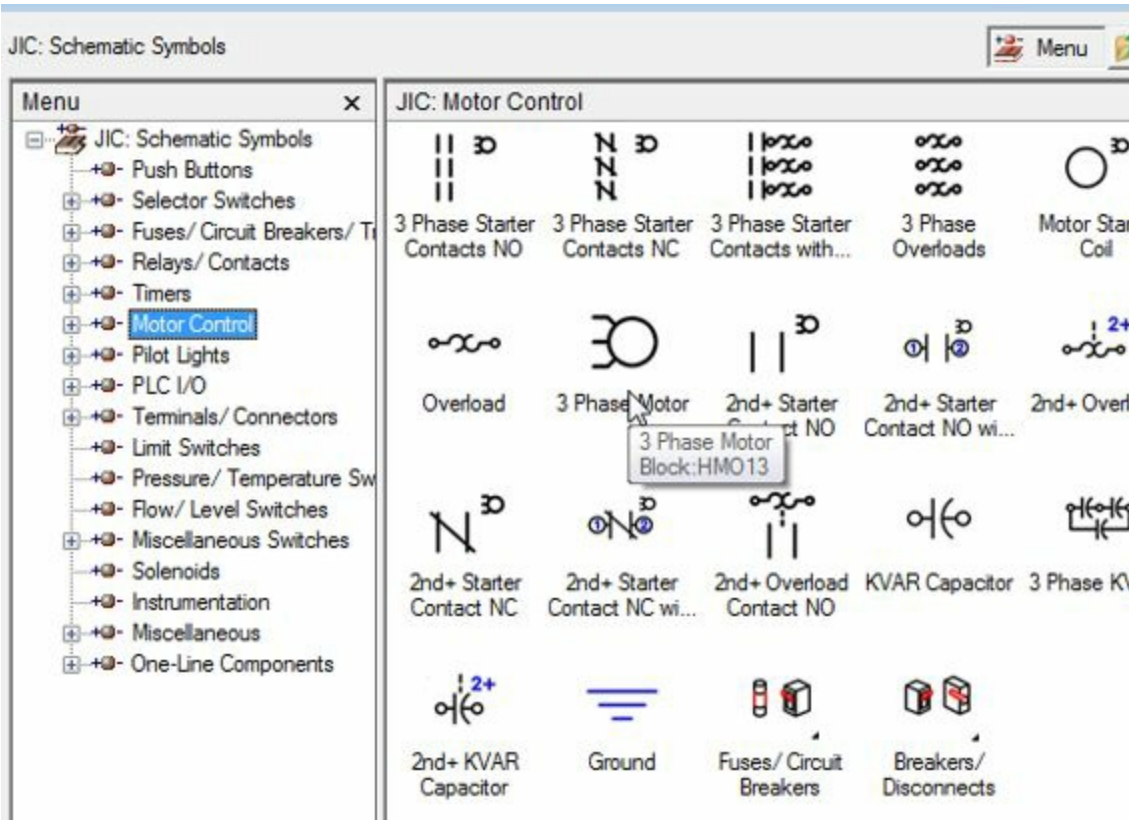

Figure-67. Motor symbol
- Select the **Motor Control** category from the menu and select the icon highlighted by the cursor; refer to Figure-67.